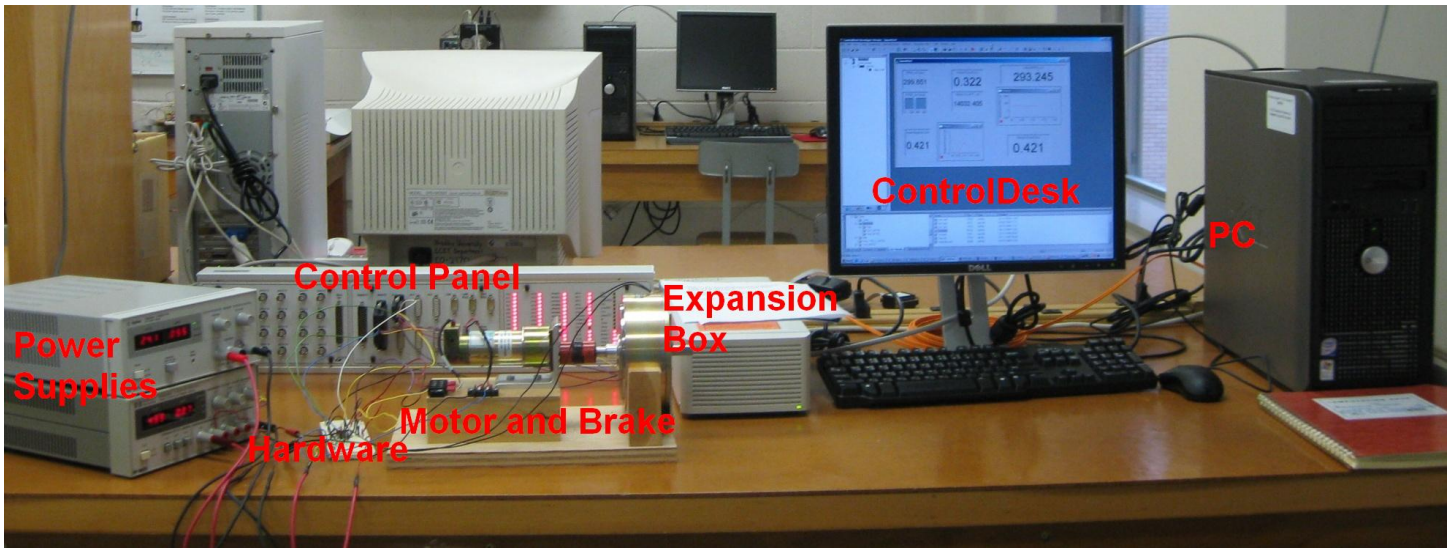

Figure 2: Workstation
- The dSPACE DS1103 Workstation. (See figure 2 on the next page.)